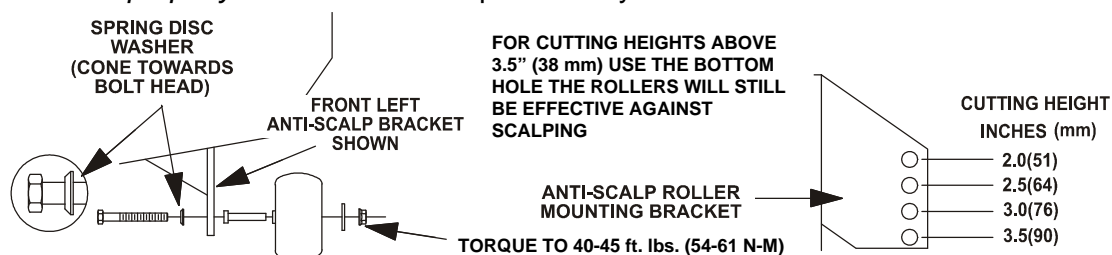

FIGURE 10
- g) Adjust anti-scalp rollers for Normal Operating Conditions. Stop engine, wait for all moving parts to stop, and remove key. Place rollers in one of the positions shown in Figure 10. Rollers will maintain 3/4 in. (19 mm) clearance to the ground to minimize gouging and roller wear or damage.